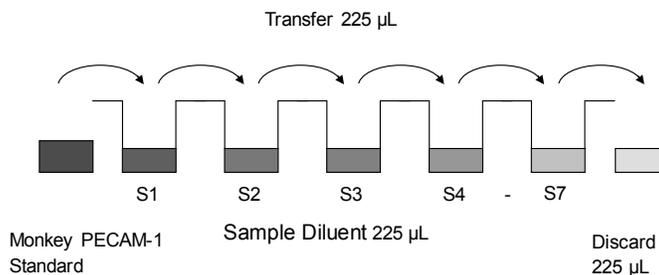
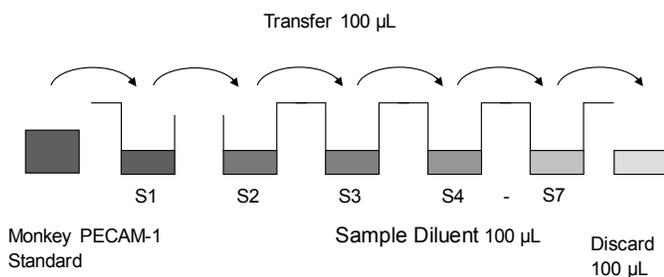

Fig. 5 Dilute standards - tubes
Fig. 6 Dilute standards - microwell plate
4. Repeat serial dilutions 5 more times thus creating the points of the standard curve (see Figure 5).
Add 100 µL of Sample Diluent in duplicate to all standard wells. Prepare standard dilutions by pipetting 100 µL of monkey PECAM-1 Standard, in duplicate, into well A1 and A2 (see Figure 5 and Figure 6). Mix the contents by repeated aspiration and ejection and transfer 100 µL to well B1 and B2, respectively. Take care not to scratch the inner surface of the microwells. Continue this procedure five times, creating two rows of monkey PECAM-1 standard dilutions ranging from 30.00 to 0.48 U/mL. Discard 100 µL of the contents from the last microwells (G1, G2) used.